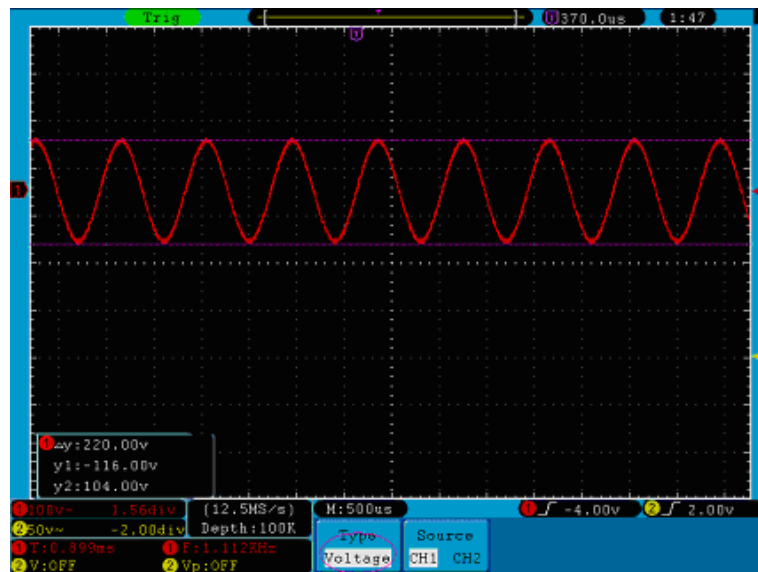

Figure 69. Waveform of Voltage Cursor Measurement.
- 4 According to the measured waveform, adjust the positions of Cursor1 and Cursor2 by turning the **VERTICAL POSITION** knob of CH1 and CH2. Cursor increment window at the left bottom of waveform shows absolute value of D-value of cursor 1 and cursor 2 and the present position of the two cursors. (See Figure 69).